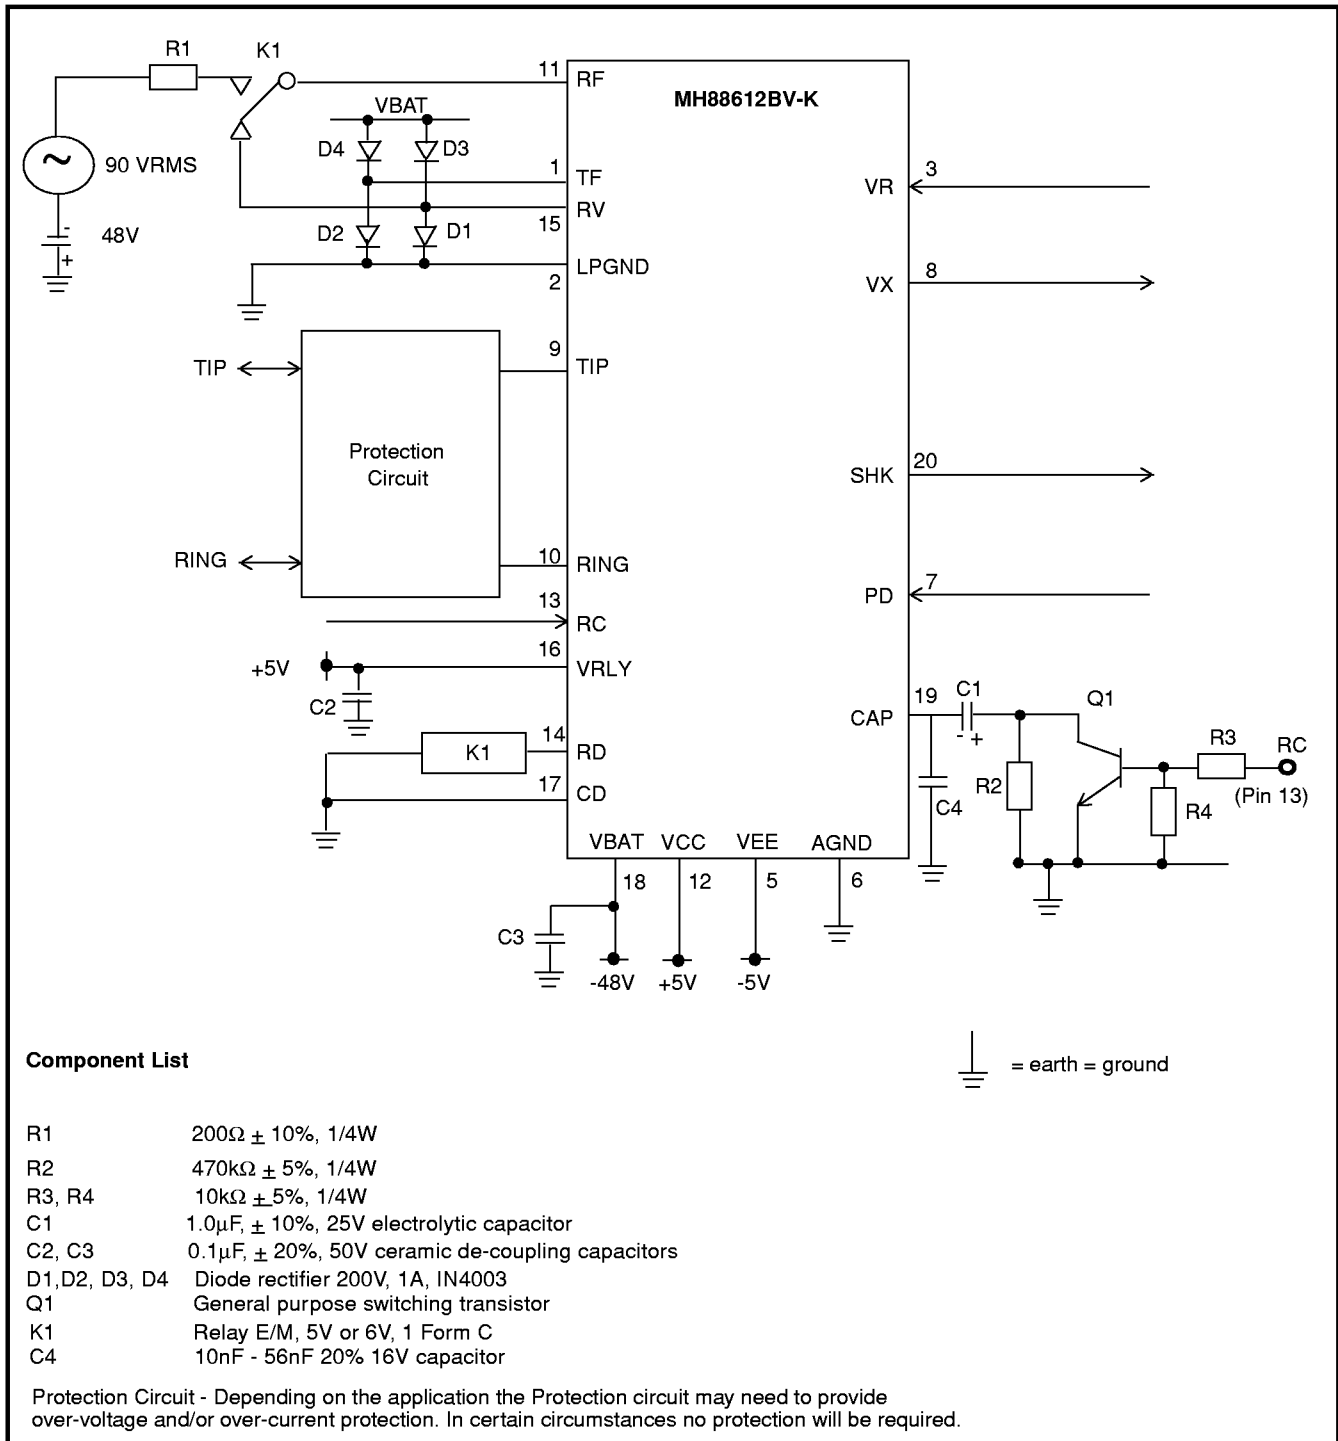

Figure 3 - Typical Application Circuit
Note 1: C4 in Figure 3 can be added permanently to this pin for certain dial pulse applications.
In Figure 3 a ringing signal (e.g. 90 Vrms and -48Vdc) is applied to the line by disconnecting pin 15 (RV) from pin 11 (RF), and connecting the ringing voltage at pin 11 (RF) by use of the relay K1.
During off-hook conditions (on-line), the capacitor (C1) should not have a low impedance path to ground. This can be achieved using a transistor (Q1) and resistor (R2) as shown in Figure 3, with R2 providing a high impedance path for C1. When ringing is applied (RC = 5V) the transistor will short circuit R2 which will give C1 a low impedance path to ground and provide the required filtering.